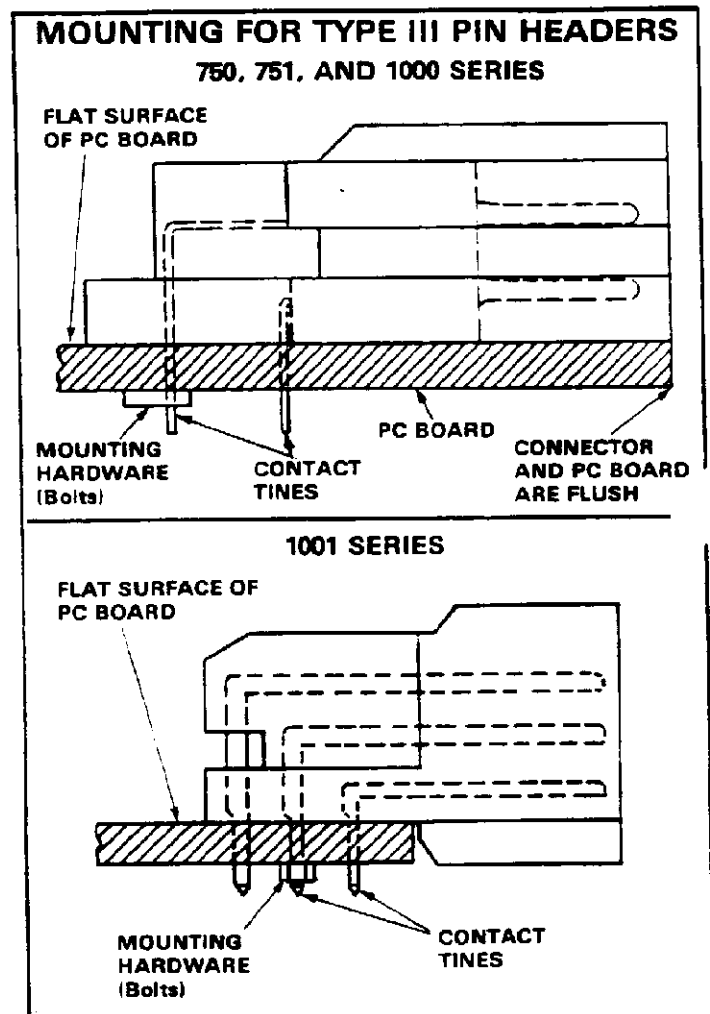

Fig. 5
The Type III box contact pin headers (90° contact tails) are designed to be mounted to the flat surface of a pc board (3/32 in. maximum thickness). They have two mounting ears by which they are secured to the pc board with bolts. See Figure 5.
3. Position the connector on the board as shown in Figure 5.